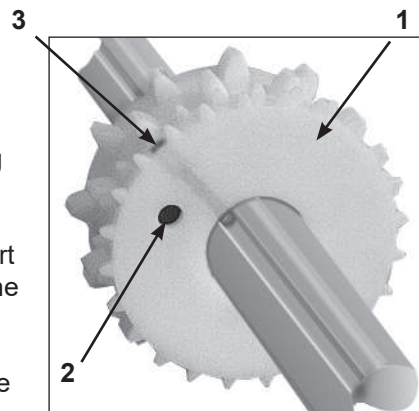

Fig 10
For sowing fine seeds the Vineyard Seeder is equipped as standard with a combined normal and fine seed "Elite" metering wheel (1). During grain sowing and other larger varieties of seed both the normal and fine seed metering wheels are coupled and both rotate. In order to convert the seed drill to sow fine seed insert the crank handle and rotate clockwise until the holes (2) of the fine seed wheel are visible (Fig 10).
CAUTION Care should be taken when tightening the grub screws on the fine seed wheel (Page 20, Fig 10/3). Adjust the grub screw until the movement of the metering wheel just stops, then tighten no more than 1/8 of a turn.